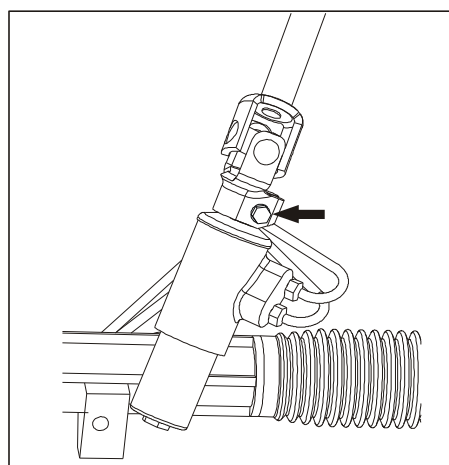

Figure 6-18 Disassembly of lower steering shaft
7. Screw off check nuts between the lower steering shaft and steering gear and pull out the connecting bolts, then remove the lower steering shaft as shown in Figure 6-18.